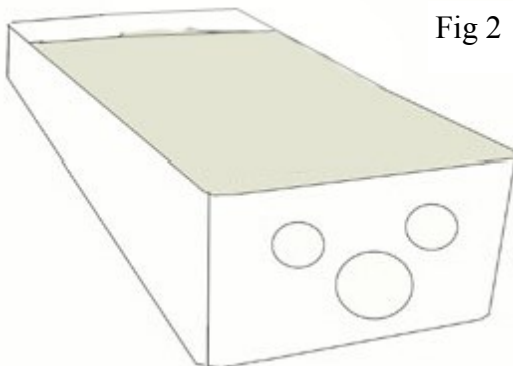

Fig 2
4. There are three separate knockouts on the bottom of the control box. Find a water-tight connector at your local hardware store that will fit one of the knockout as well as fit all of your wires through it. Remove the necessary knockout in the bottom of the box and affix a watertight connection (fig 2).